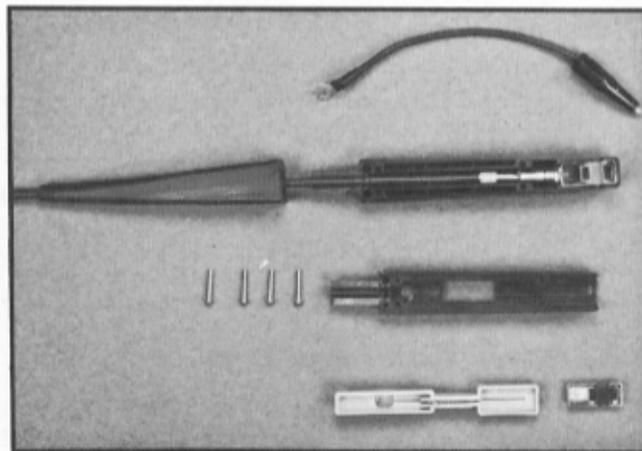

Fig. 5-1. Type P6016 Current Probe shown disassembled.
5. Remove the half of the probe body containing the slide. The probe is shown disassembled in Fig. 5-1.